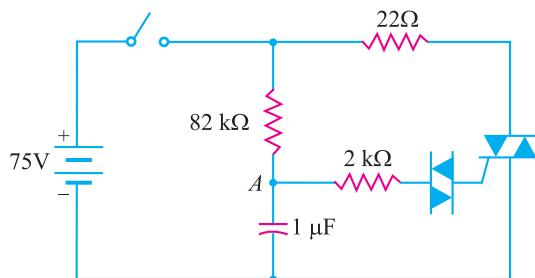

**Fig. 21.22**
**Solution.** The rated values of  $V_{GT}$  for triacs are generally low. For example, the triac shown in Fig. 21.22 (i) has  $V_{GT} = \pm 2V$ . However, we can raise the triggering level of the triac by using a *diac* in the gate circuit as shown in Fig. 21.22 (ii). With the diac present, the triac can still be triggered by both positive and negative gate voltages. However, to fire the triac into conduction, the potential  $V_A$  at point A in Fig. 21.22 (ii) must overcome the  $V_{BO}$  (breakdown voltage) for the diac plus  $V_{GT}$  i.e.